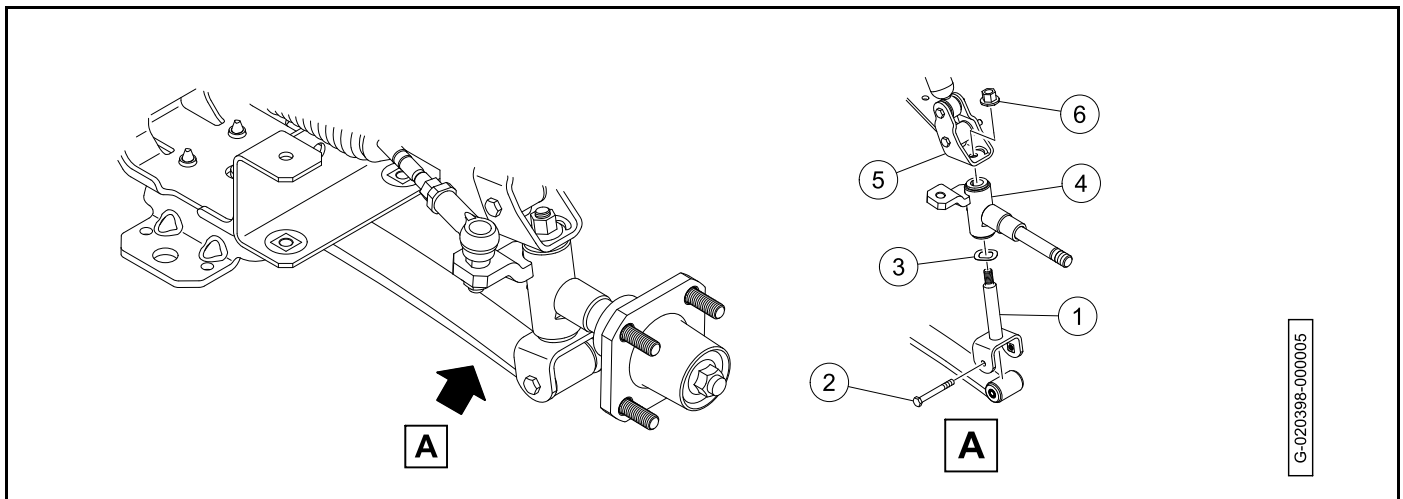

Figure 7-28
2. Install the kingpin (1) over the leaf spring eyes (**Figure 7-28**).